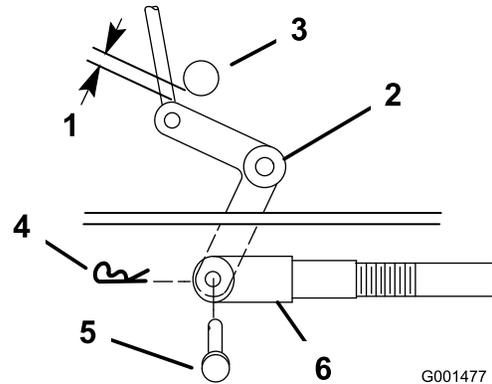

Figure 40
- Check the clearance between the bell crank and the transmission output shaft (Figure 40).
- Rotate the clevis clockwise on the rod to increase the clearance; rotate it counterclockwise to decrease it (Figure 40).
Note: If the assist arm does not contact the front stop on the mower deck (Figure 41 or Figure 42), adjust the clevis to bring the bell crank closer to the transmission output shaft (Figure 40).